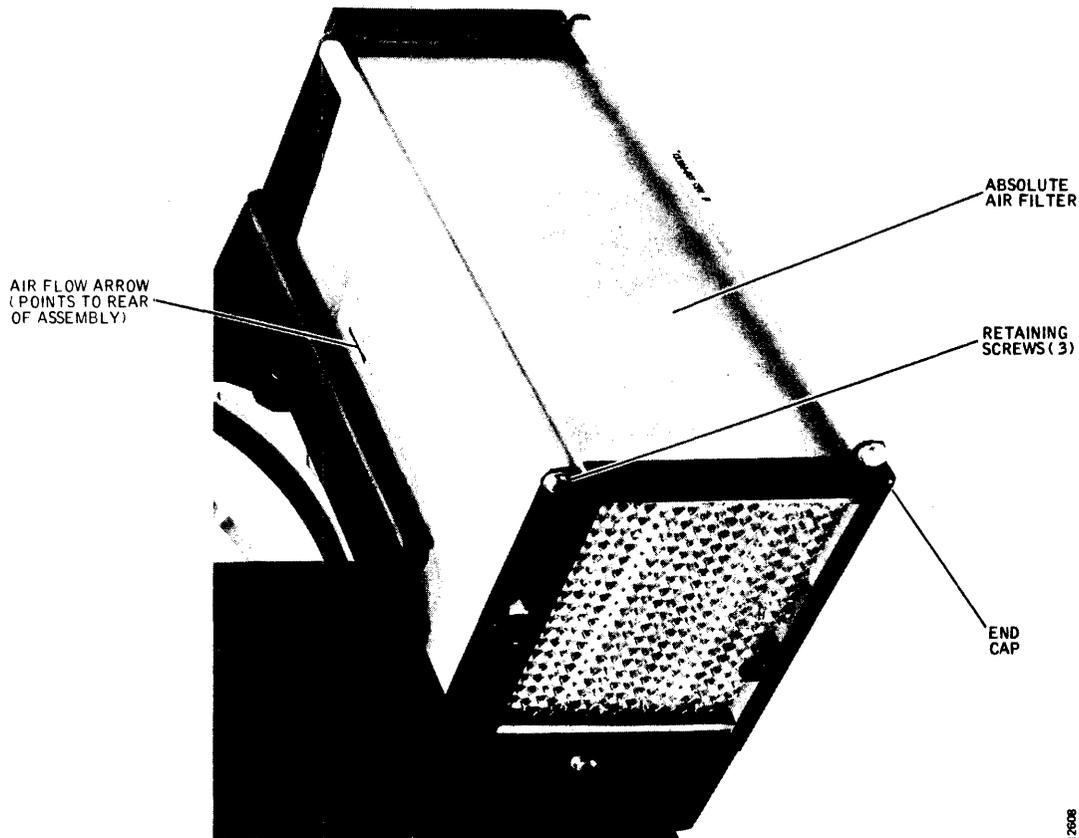

Figure 2-6. Absolute Air Filter Replacement Location
The absolute air filter (Figure 2-6) inside the disk drive should be replaced every 12 months of normal use or more often in extremely dirty environments. To replace this filter, proceed as follows:
4. Remove the three screws (one upper and two lower) that attach the rectangular air filter end cap to the air shroud, and lift out the air filter element. Refer to Figure 2-6.